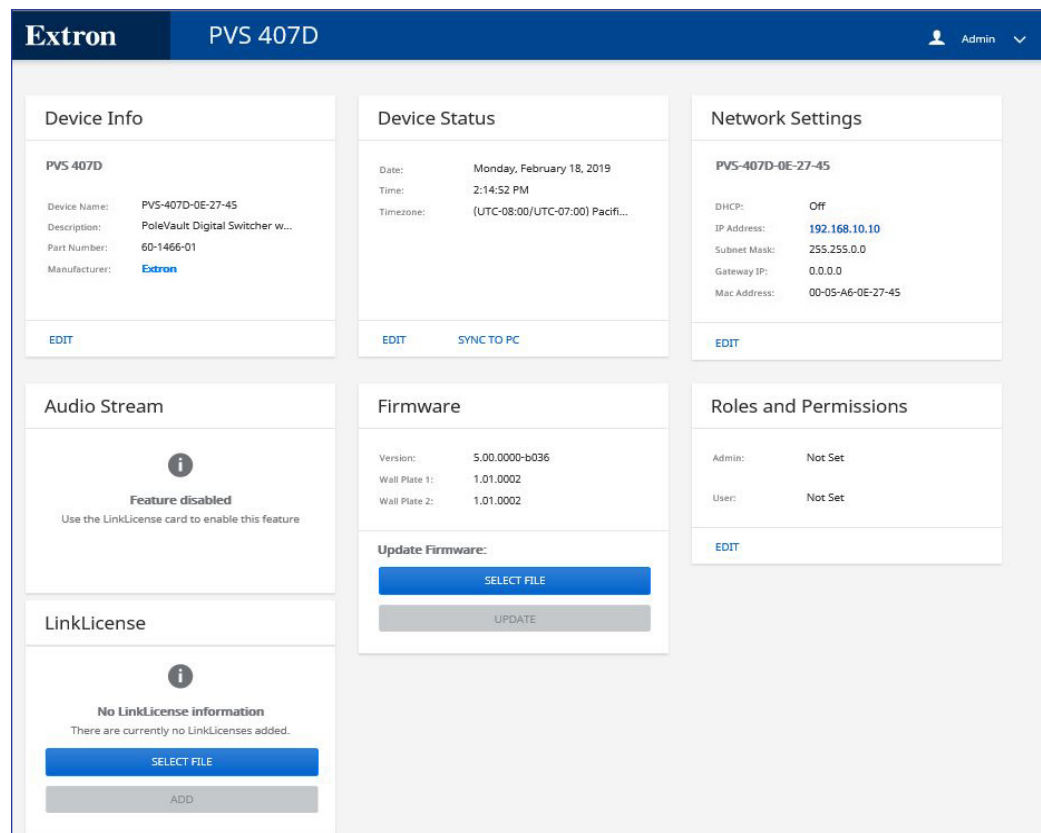
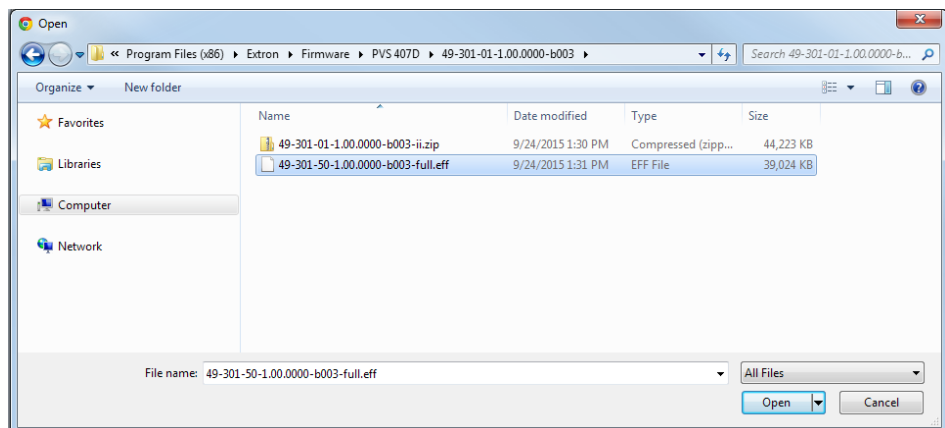

Figure 51. Internal Web Page Example
Figure 57. Explorer Window
The PVS 407D default web page (see figure 51) has seven panels:
The **Device Info** panel (see figure 51 on the previous page) shows the current device name, description, part number, and manufacturer. By clicking **EDIT** on the bottom of that panel, the **Device Info Settings** dialog box (see figure 52) opens and allows you to change only the **Device Name**.
The **Device Status** panel (see figure 51 on page 66) shows the date, time, and time zone for the connected switcher, and allows the user to either synchronize the date and time to a connected PC or set the date and time manually.
1. Click **SYNC TO PC** on the **Device Status** panel (see figure 51).
The **Network Settings** panel (see figure 51 on page 66) shows the current network settings for the PVS 407D. To change the TCP/IP settings, click **EDIT** to access the **Network Settings** dialog box (see figure 54).
Prior to adding the LinkLicense, the screen appears as in figure 51 on page 66.
The **Firmware** panel (see figure 51 on page 66) shows the current firmware version and when it was last updated to the PVS 407D.
2. On the **Firmware** panel (see figure 51 on page 66), click **Select File**. This opens an Explorer window (see figure 57).
The **Roles and Permissions** panel (see figure 51 on page 66) gives the user access to set the admin and user passwords for the PVS 407D switcher. To change them, click **EDIT** to access the **Roles and Permission Settings** dialog box (see figure 59).